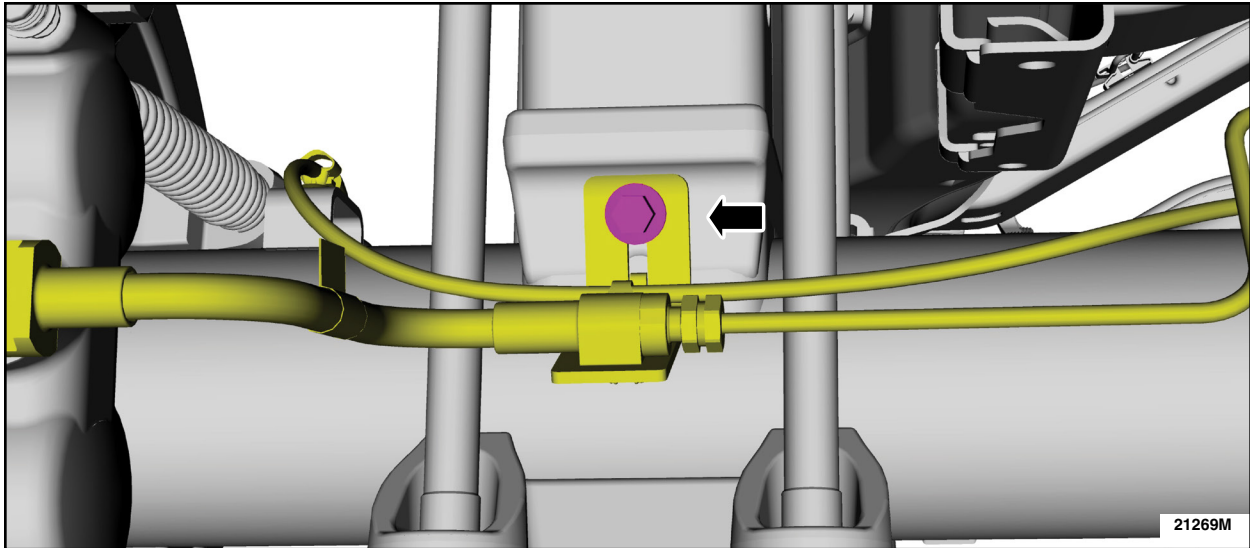

FIGURE 5
4. Remove the brake line bracket bolt and position aside the brake line bracket. See Figure 5.